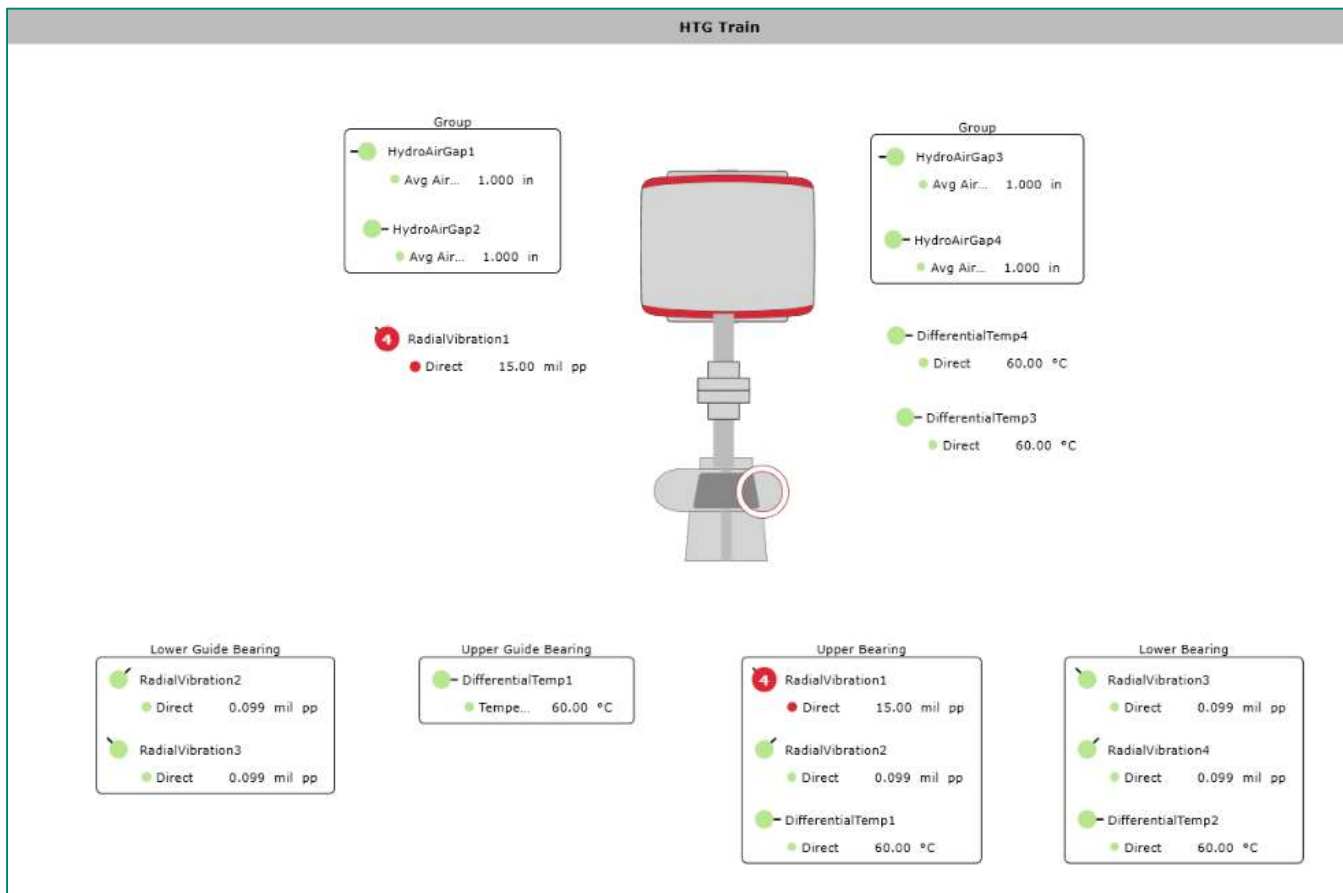

Figure 2: Machine Train Overview of Hydro Turbine Generator
- Hydro Machinery health can be viewed within the Status workspace, with a standard Machine Train diagram (Figure 2) or customized HMI views (see Section 5.1.1)